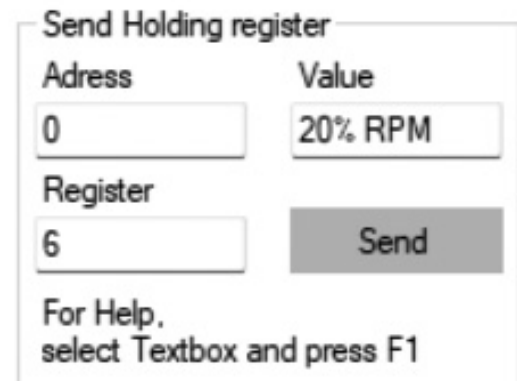

Fig. 11 — ZA input 20% RPM and Register in “Send Holding Register”
- Once dissipation RPM is identified, in the same section, for “**Value**” input the dissipation RPM, and for “**Register**” type “6”. Press the “**Send**” button. This will set the dissipation modes override RPM. See Fig. 11.